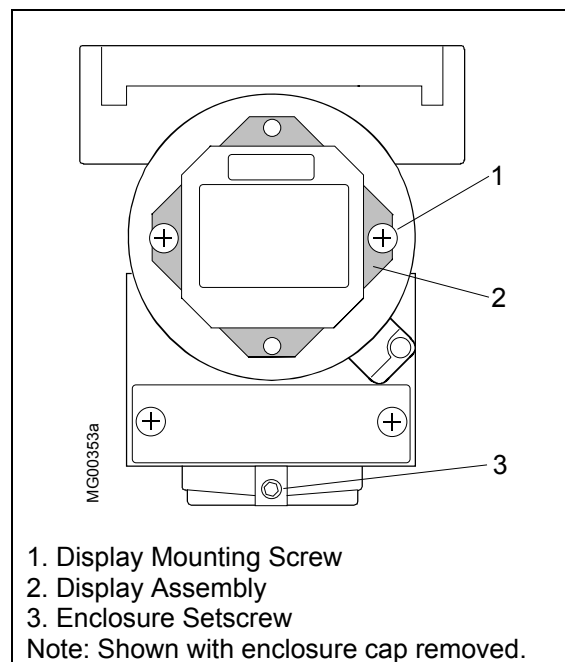

FIGURE 4-15 Display Removal and Repositioning
4. Use a Phillips blade screwdriver to remove the two screws holding the display. The display is electrically connected to the transmitter electronics by the display cable. Refer to Figure 4-15.